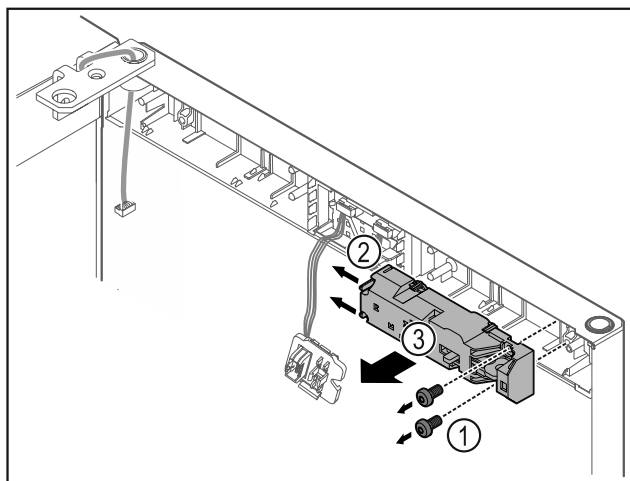

Fig. 23
- Remove the screws Fig. 23 (1).
- Press the latching lugs Fig. 23 (2) to the side and take off the remote lock Fig. 23 (3).